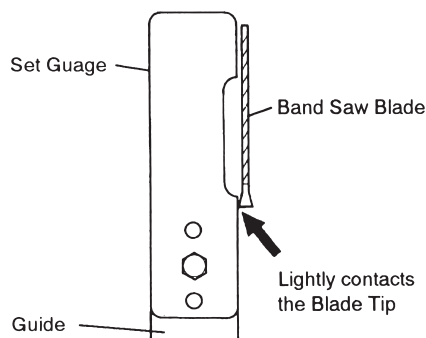

Fig. 15
- Move the guide close to the band saw blade, and set the set gauge so that it lightly contacts the cutting tip of the band saw blade. (See Fig. 15)